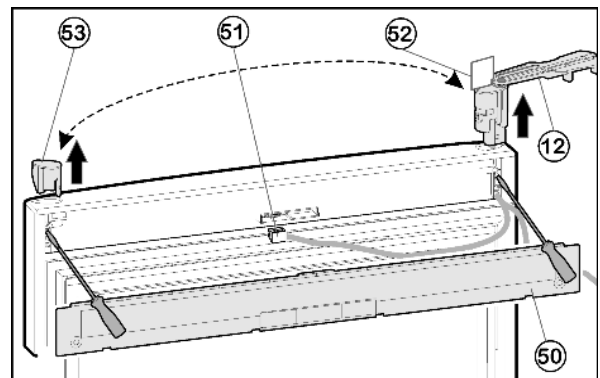

Fig. 10
- ▶ Using a screwdriver, remove the cover Fig. 10 (50) on the door.
- ▶ Disconnect the plug connector Fig. 10 (51).
- ▶ At the upper door, rotate the turn hinge Fig. 10 (12) in an outward direction, parallel to the door edge.
- Using a screwdriver, push out the turn hinge Fig. 10 (12) from underneath and remove it from the door complete with cable.
- Using a screwdriver, push out the stopper Fig. 10 (53) from underneath and transfer it to the opposite side.
- Feed in the cable of the turn hinge Fig. 10 (12) at the opposite side and insert turn hinge.
- Remove the template Fig. 10 (52) and fasten it in the turn hinge.
- Plug in the plug Fig. 10 (51).
- Engage the cover Fig. 10 (50) on the door.